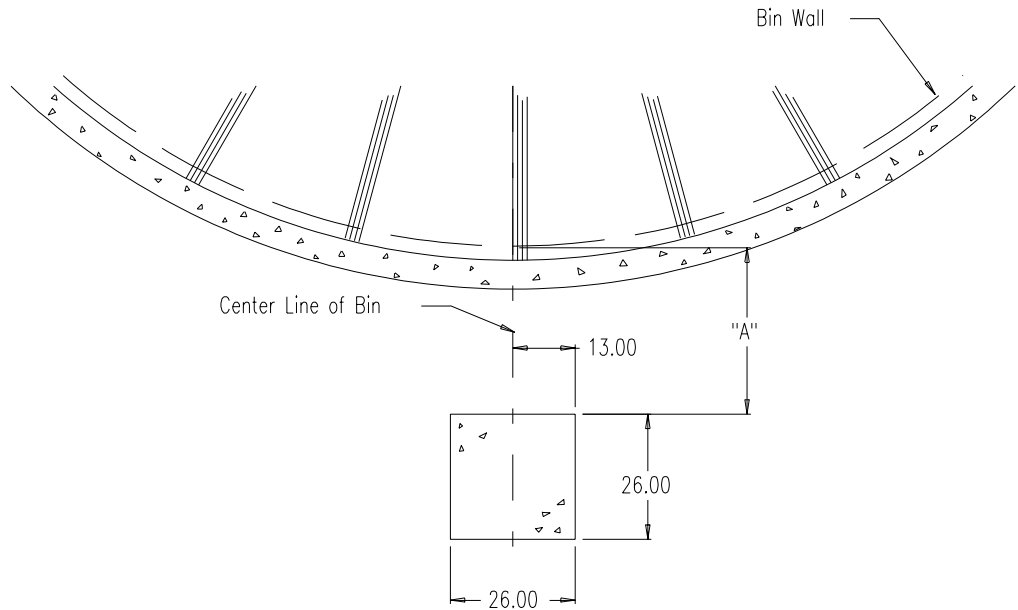

Figure 1: Fan pad installation guidelines.
**Figure 1:** Use a #6 or approved size bare copper ground wire. Install a 5/8" diameter 8' long copper-clad ground rod, 2' away from the foundation and 1' below the surface of the ground or in accordance with local requirements.